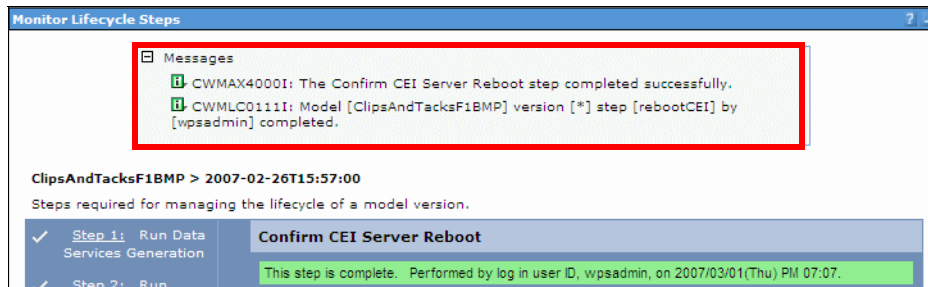

Figure 14-31 Monitor life cycle: Step 7 completed
- Verify that the messages indicating successful completion of step 7 are displayed (Figure 14-31).